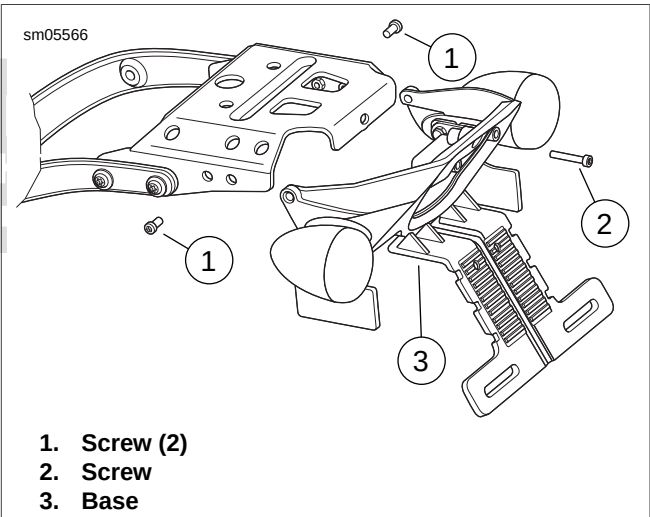

Figure 6-66. Tail Lamp Base: XR 1200 Only
6. **XR models only:** see Figure 6-66. Remove base as follows:
8. **XR models only:** see Figure 6-66. Install base as follows: